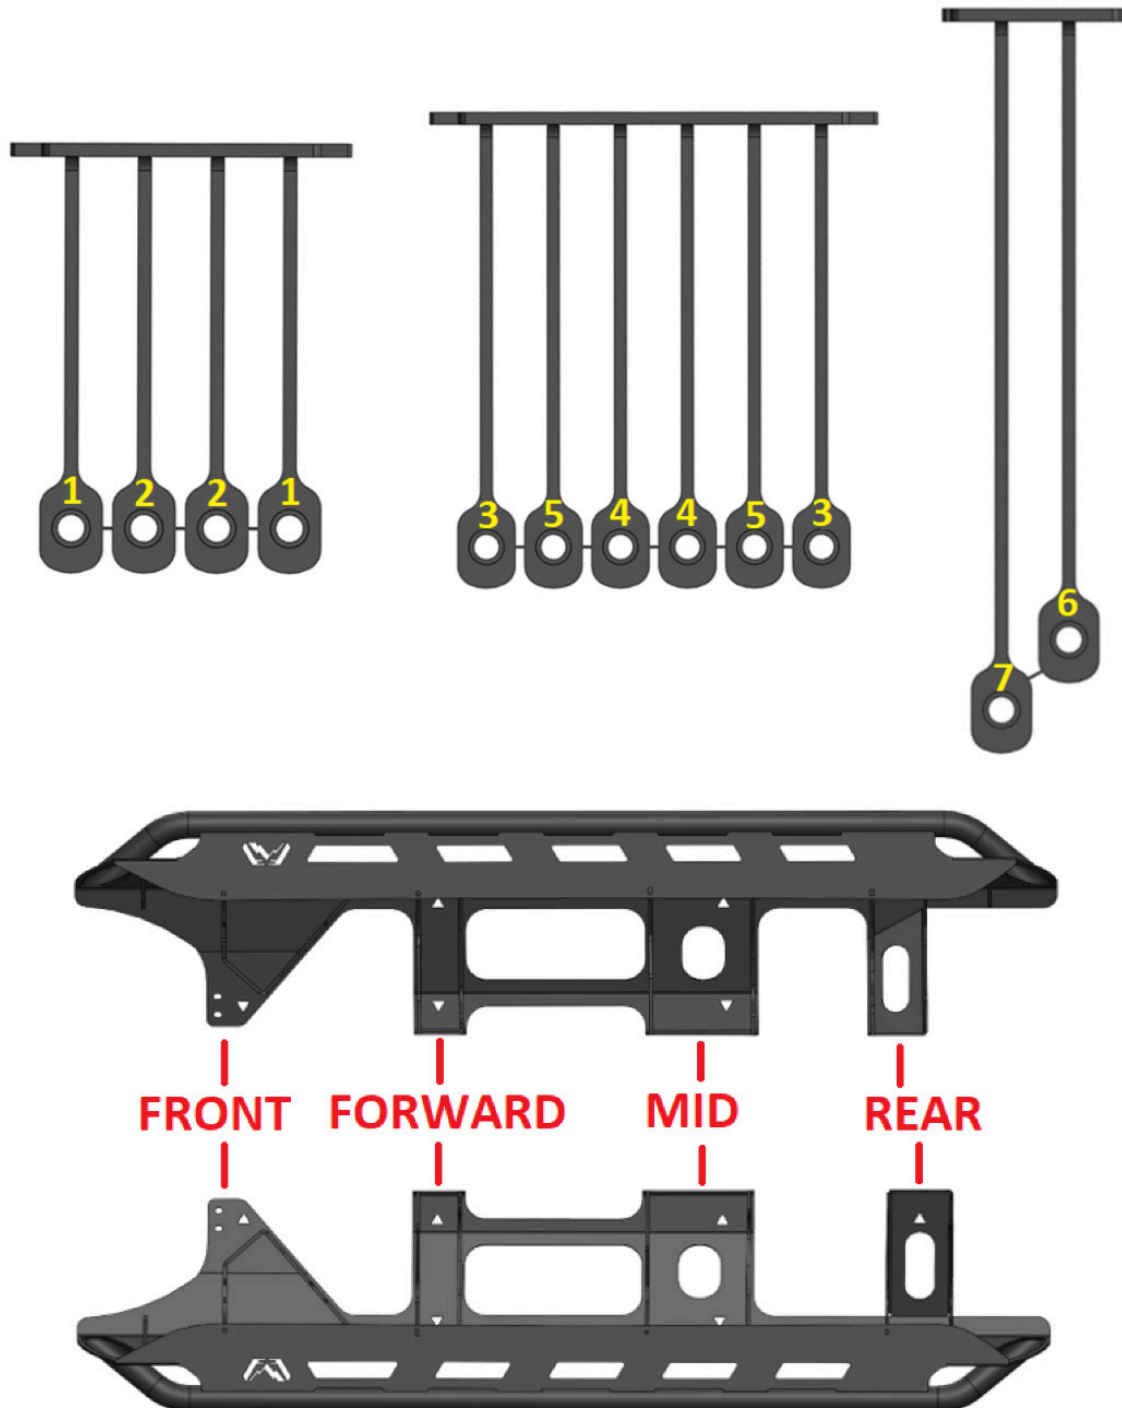

Figure 1
2. Once you have unpacked the Fab Fours Sliders, start by disassembling and organizing your nut plates. See Figure 1 for nut plate break down and assembly locations. Figure 1.